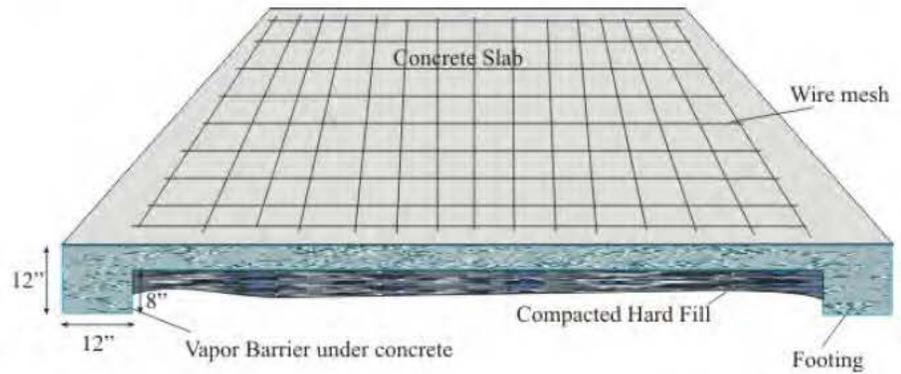

Figure 4
**Step 9.** You are now ready to pour your concrete. Your concrete slab should be 12"x12" around the exterior edges, and under any additional skids, and reinforced with wire mesh. The rest of the slab should be 4" thick. Figure 4.